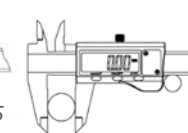

Fig. 6
- E. Differential method of measurement (application of zero setting) (Fig. 6).